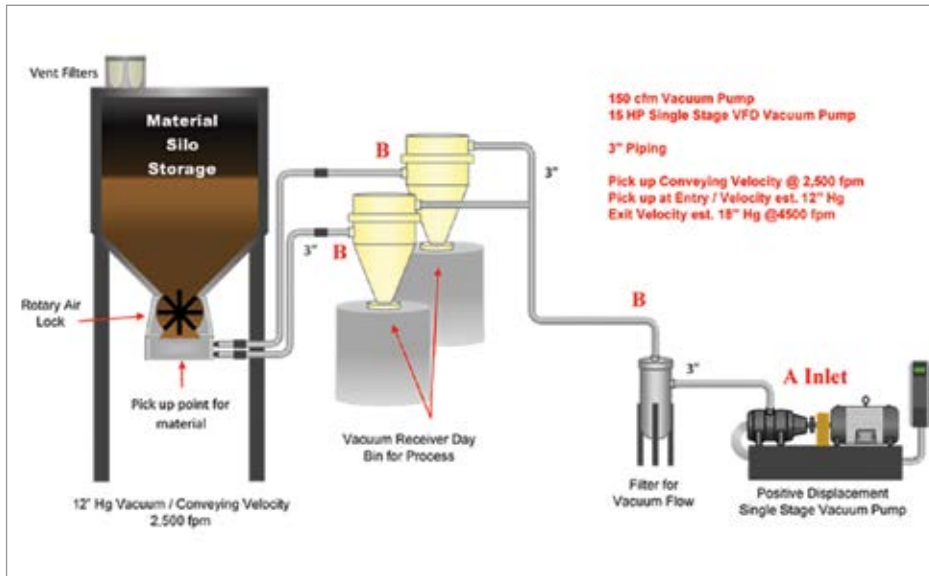

Figure 1: Typical Vacuum Dilute Phase Conveying System for Particle Material
Figure 1 provides an example of where to measure to understand operating pressure drop. Measure the vacuum at the inlet to the vacuum pump (A) and using the same gauge measure the vacuum at the point(s) of use (B).